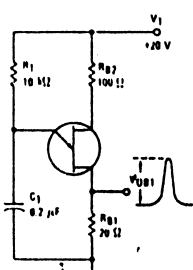

FIGURE 4 — ρ TEST CIRCUIT
* Valley-Point Current (2) ($V_{D2D1} = 20\text{ V}$, $R_{D2} = 100\text{ ohms}$)	13, 14	I_V	2.0 4.0 6.0	—	—	mA
- (1) Intrinsic standoff ratio, is defined in terms of the peak-point voltage, V_P , by means of the equation: $\rho = V_{D2D1} / V_P$, where V_P is about 0.49 volt at 25°C @ $I_E = 10\text{ }\mu\text{A}$ and decreases with temperature at about 2.5 mV/ $^\circ\text{C}$. The test circuit is shown in Figure 4. Components R_1 , C_1 , and the UJT form a relaxation oscillator; the remaining circuitry serves as a peak-voltage detector. The forward drop of Diode D_1 compensates for V_P . To use, the "cal" button is pushed, and R_1 is adjusted to make the current meter, M_1 , read full scale. When the "cal" button is released, the value of ρ is read directly from the meter, if full scale on the meter reads 1.0.
- (2) Use pulse techniques: $PW = 300\text{ }\mu\text{s}$, duty cycle $\leq 2.0\%$ to avoid internal heating, which may result in erroneous readings.